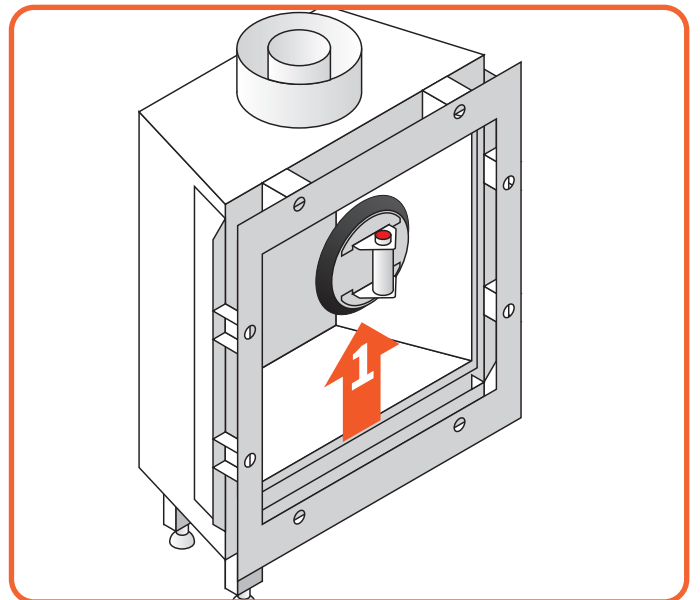

Figure 9.5 | Put on suction cup and lift a bit
- Remove the glass cords. (See Figure 9.5)